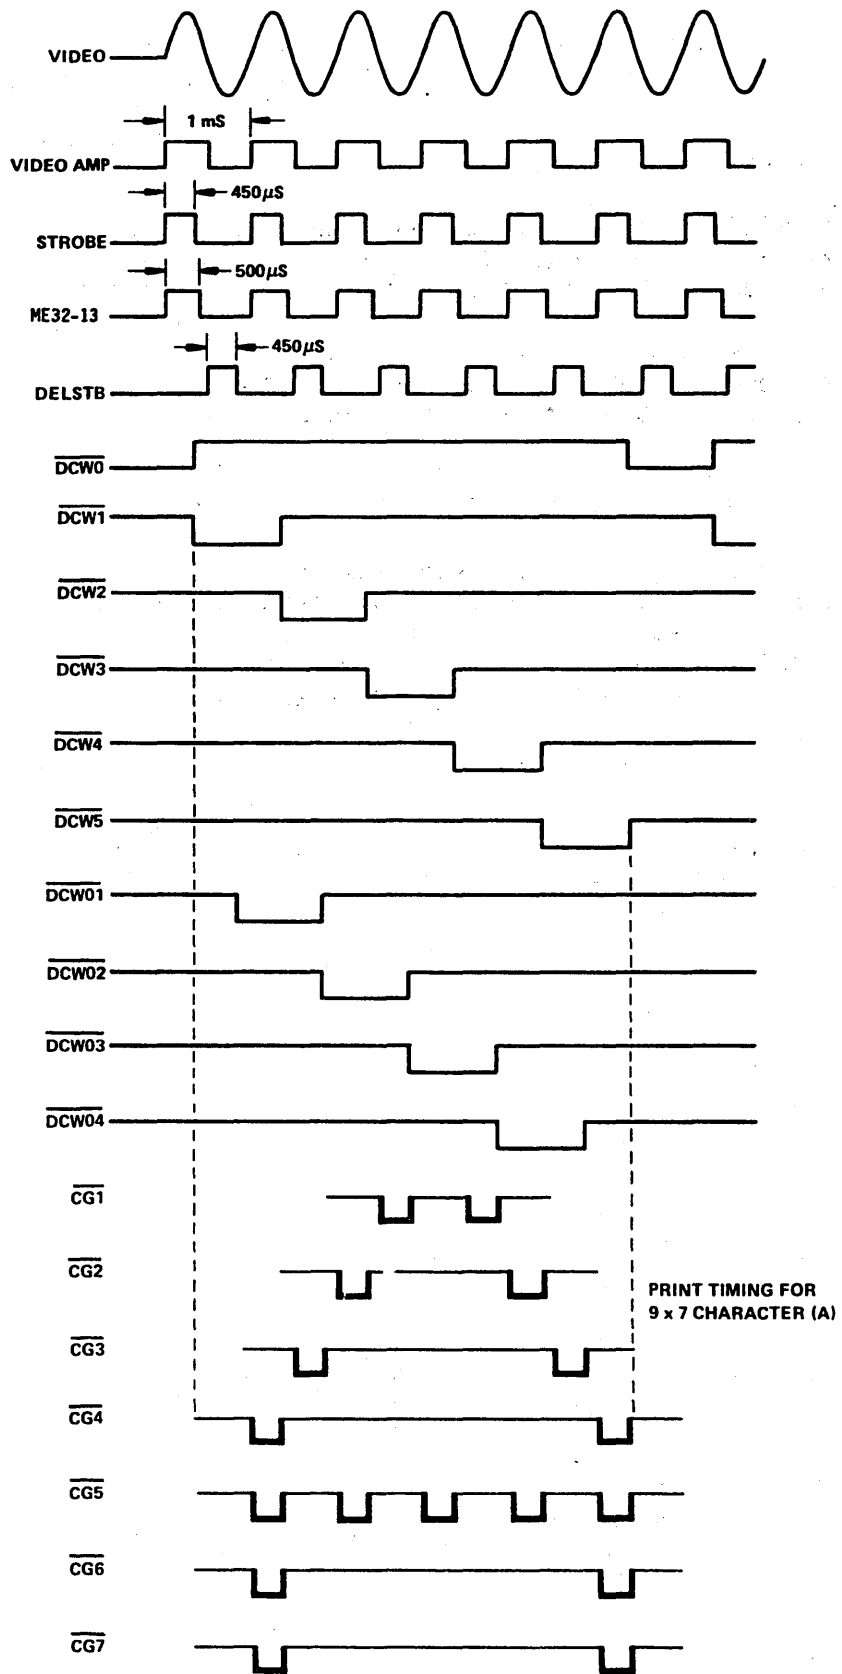
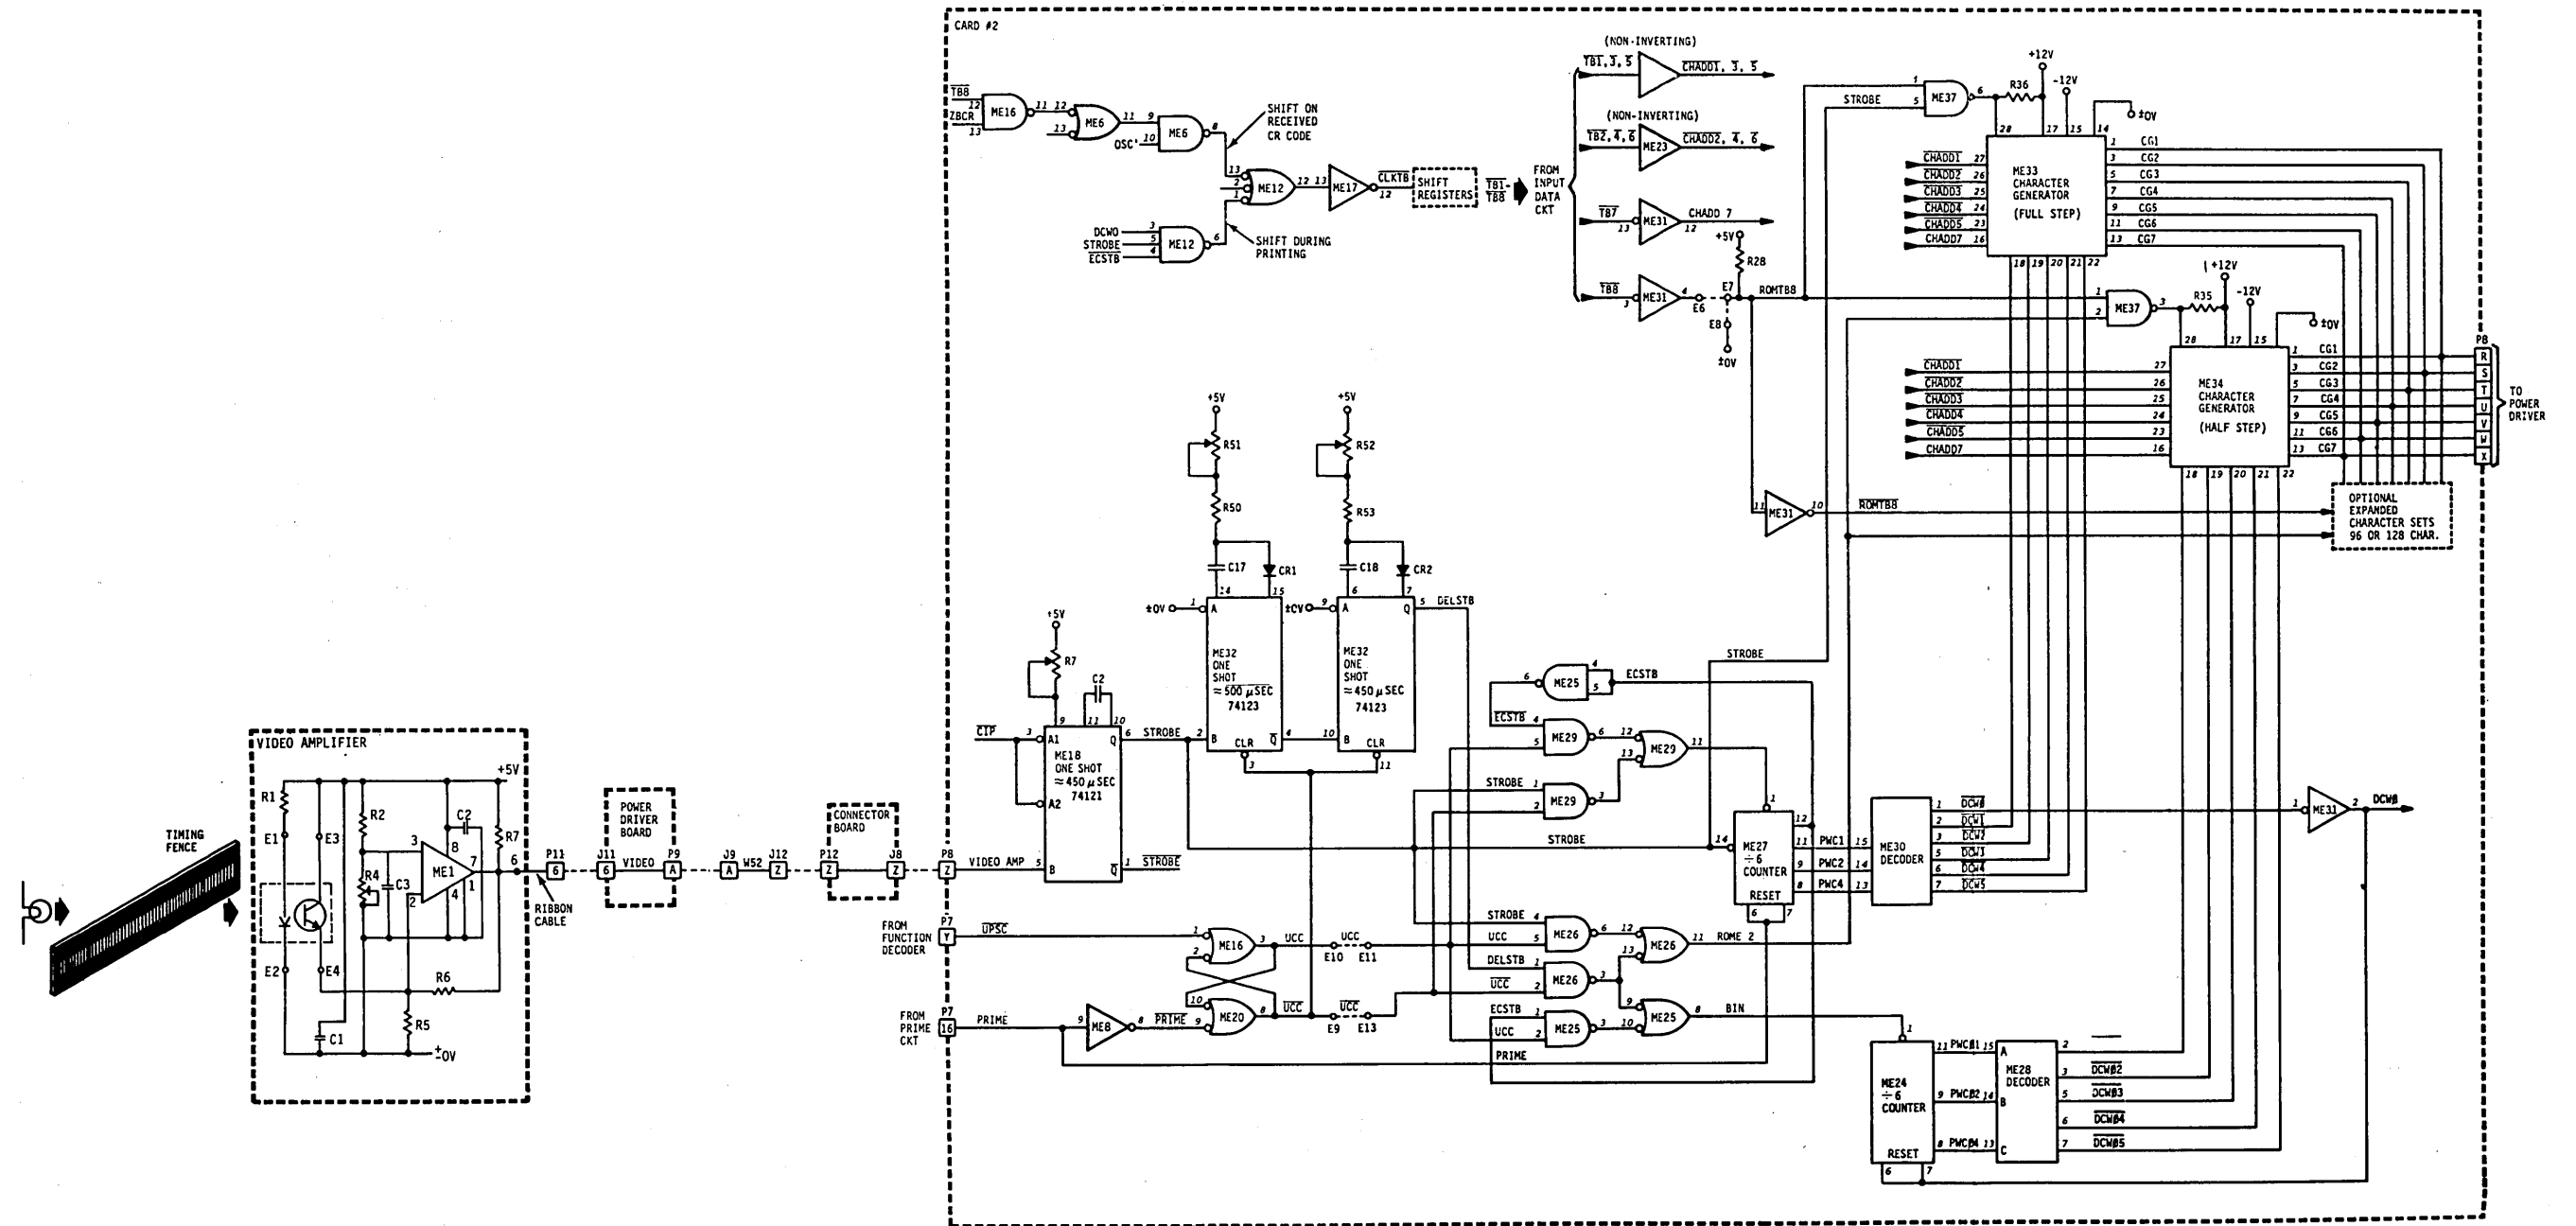

Figure 4-15. CHARACTER TIMING
Figure 4-16. CHARACTER REGISTRATION AND TIMING CIRCUIT
4.5.3 CHARACTER REGISTRATION AND TIMING (FIGURE 4-15, TIMING; FIGURE 4-16, CIRCUIT)
As the print head assembly moves across the timing fence, the vertical slots on the timing fence interrupt light to the optical pick-up head, generating a video signal. The VIDEO AMP output then triggers the STROBE one-shot ME18 on the logic card, initiating the print timing shown in Figure 4-15.
4.5.3.1 Video Amplifier (Figure 4-16)
4.5.3.2 Timing Signals (Figure 4-15, Timing; Figure 4-16, Circuit)
During each video interval both a STROBE pulse and a DELSTB pulse of the same width is generated as shown in Figure 4-15. During normal character printing (when UCC is high), four consecutive DELSTB inputs to counter ME24 generate timing outputs DCW01-DCW04. These four timing intervals correspond to the four additional ("half-step") columns in the 9 x 7 matrix. Timing signals (DCW01-DCW04) are used to address the appropriate column in the "half-step" ROM (character generator).
4.5.4 CHARACTER GENERATOR (ROM - FIGURE 4-16)